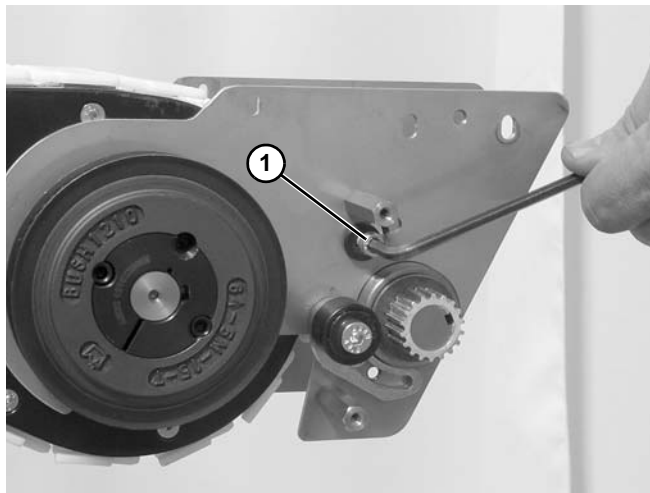

Figure 150
12. Remove socket head screw (Figure 150, item 1) on both sides of the conveyor and remove idler assembly.